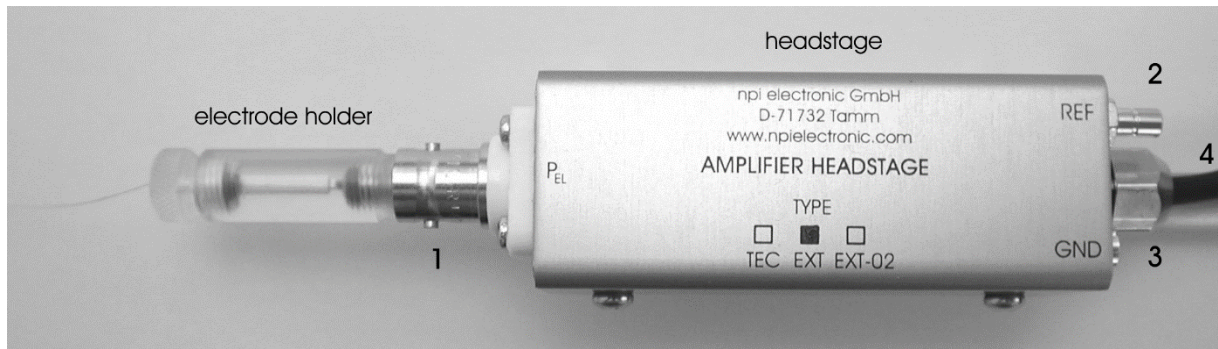

Figure 6: electrode holder (optional) and headstage of the EXT-10C
**Very Important:** EXT-10C headstages are always labeled “EXT” (see Figure 6) and must not be exchanged with headstages from npi electronic’s desktop EXT amplifiers, e.g. the EXT-02F which is labeled “EXT-02”!